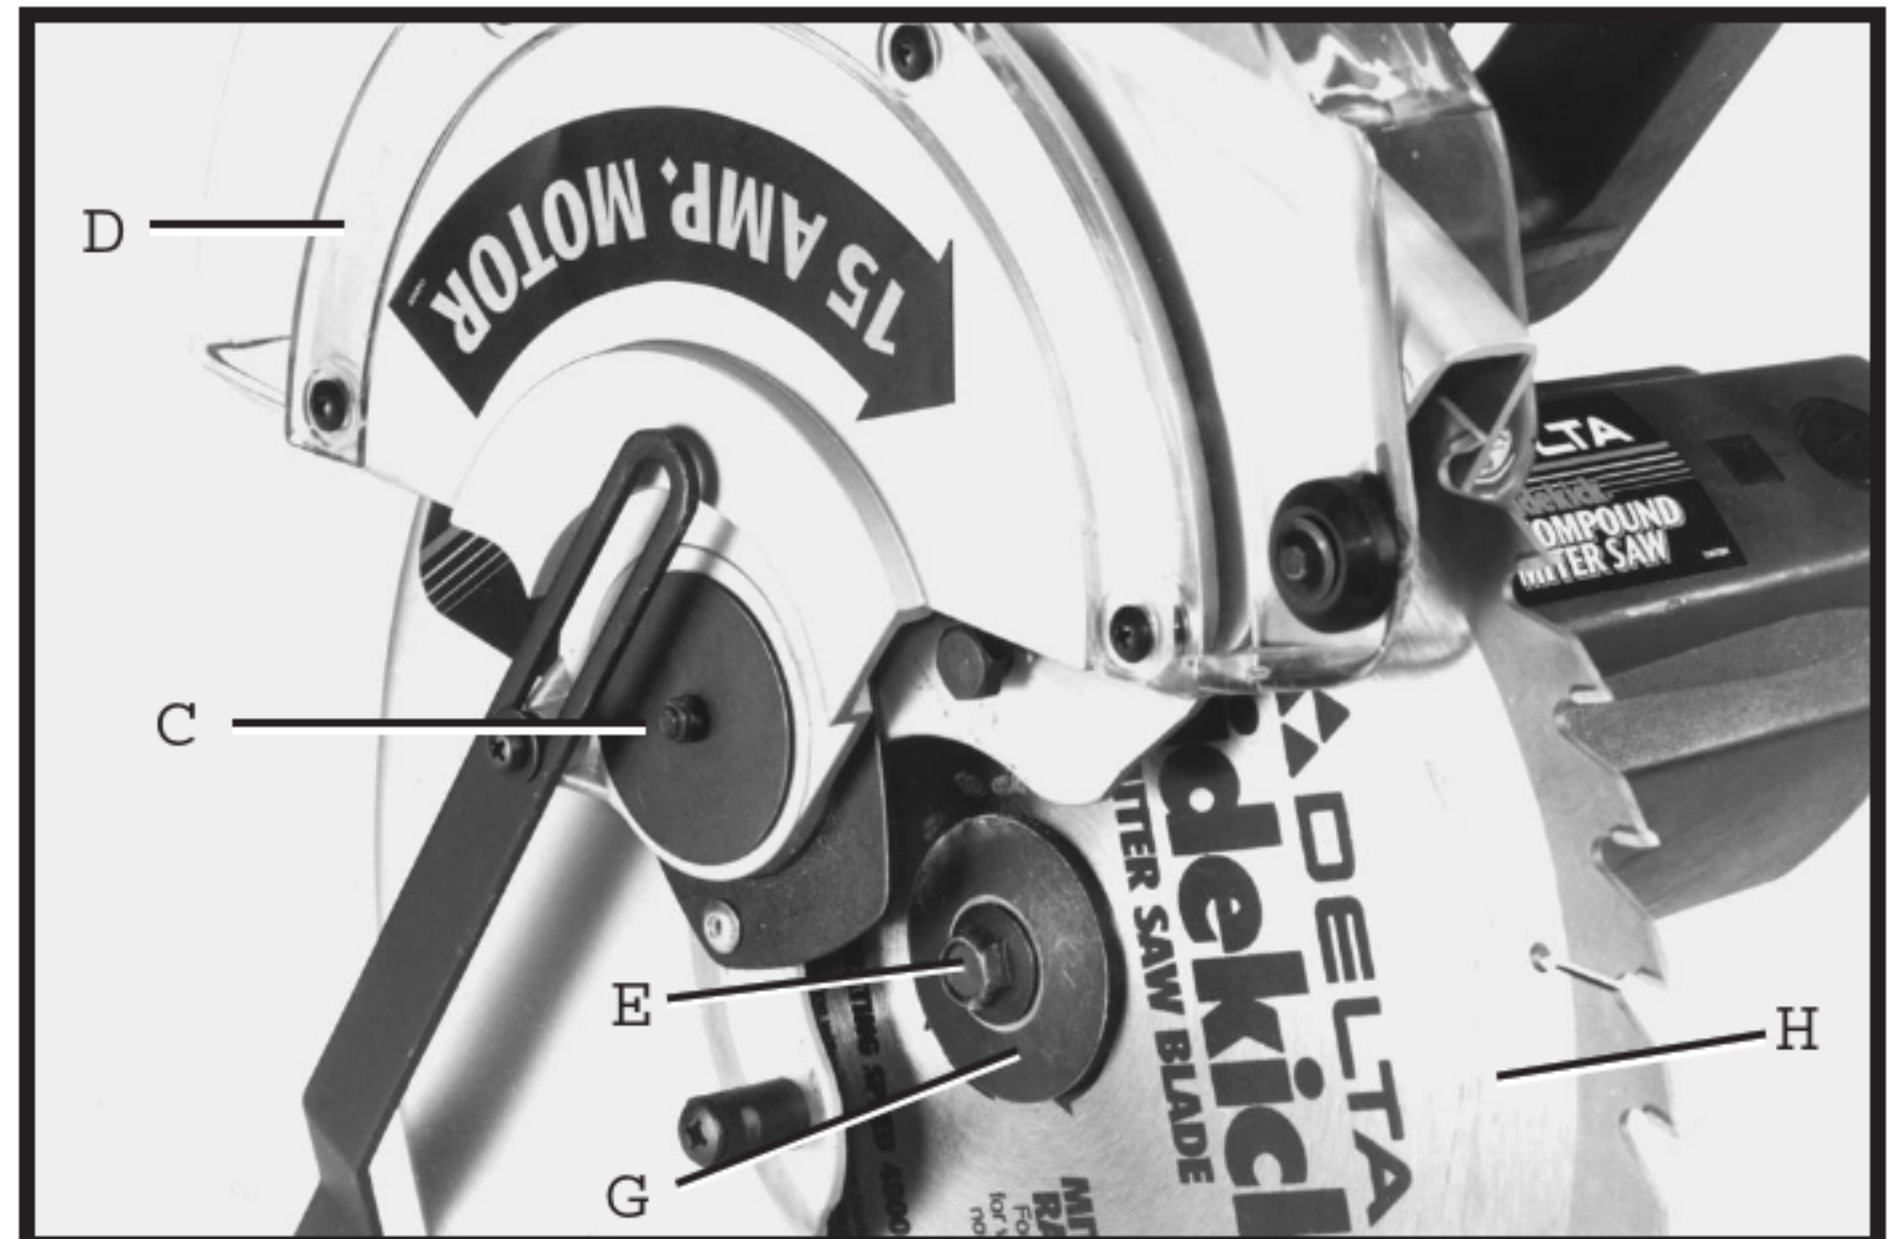
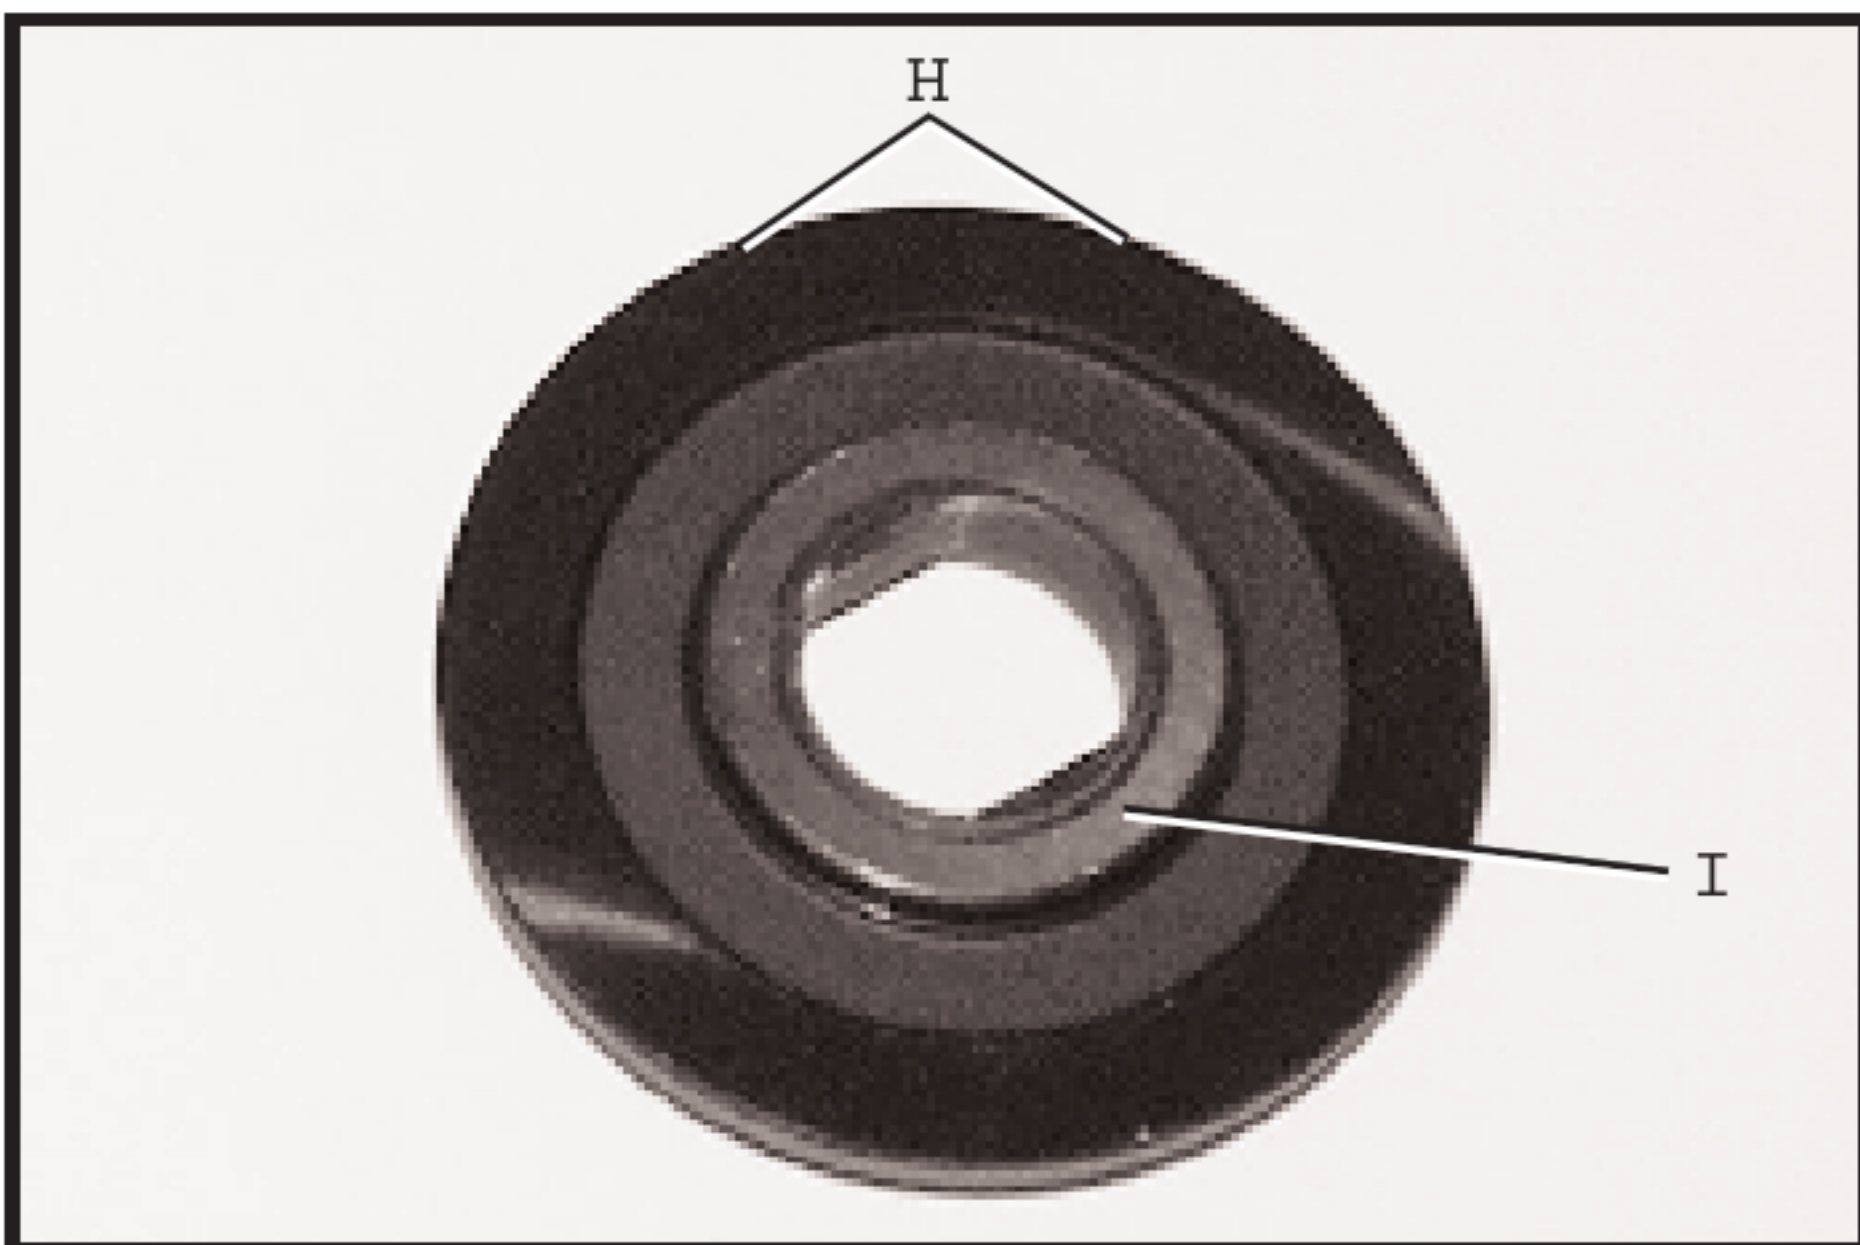
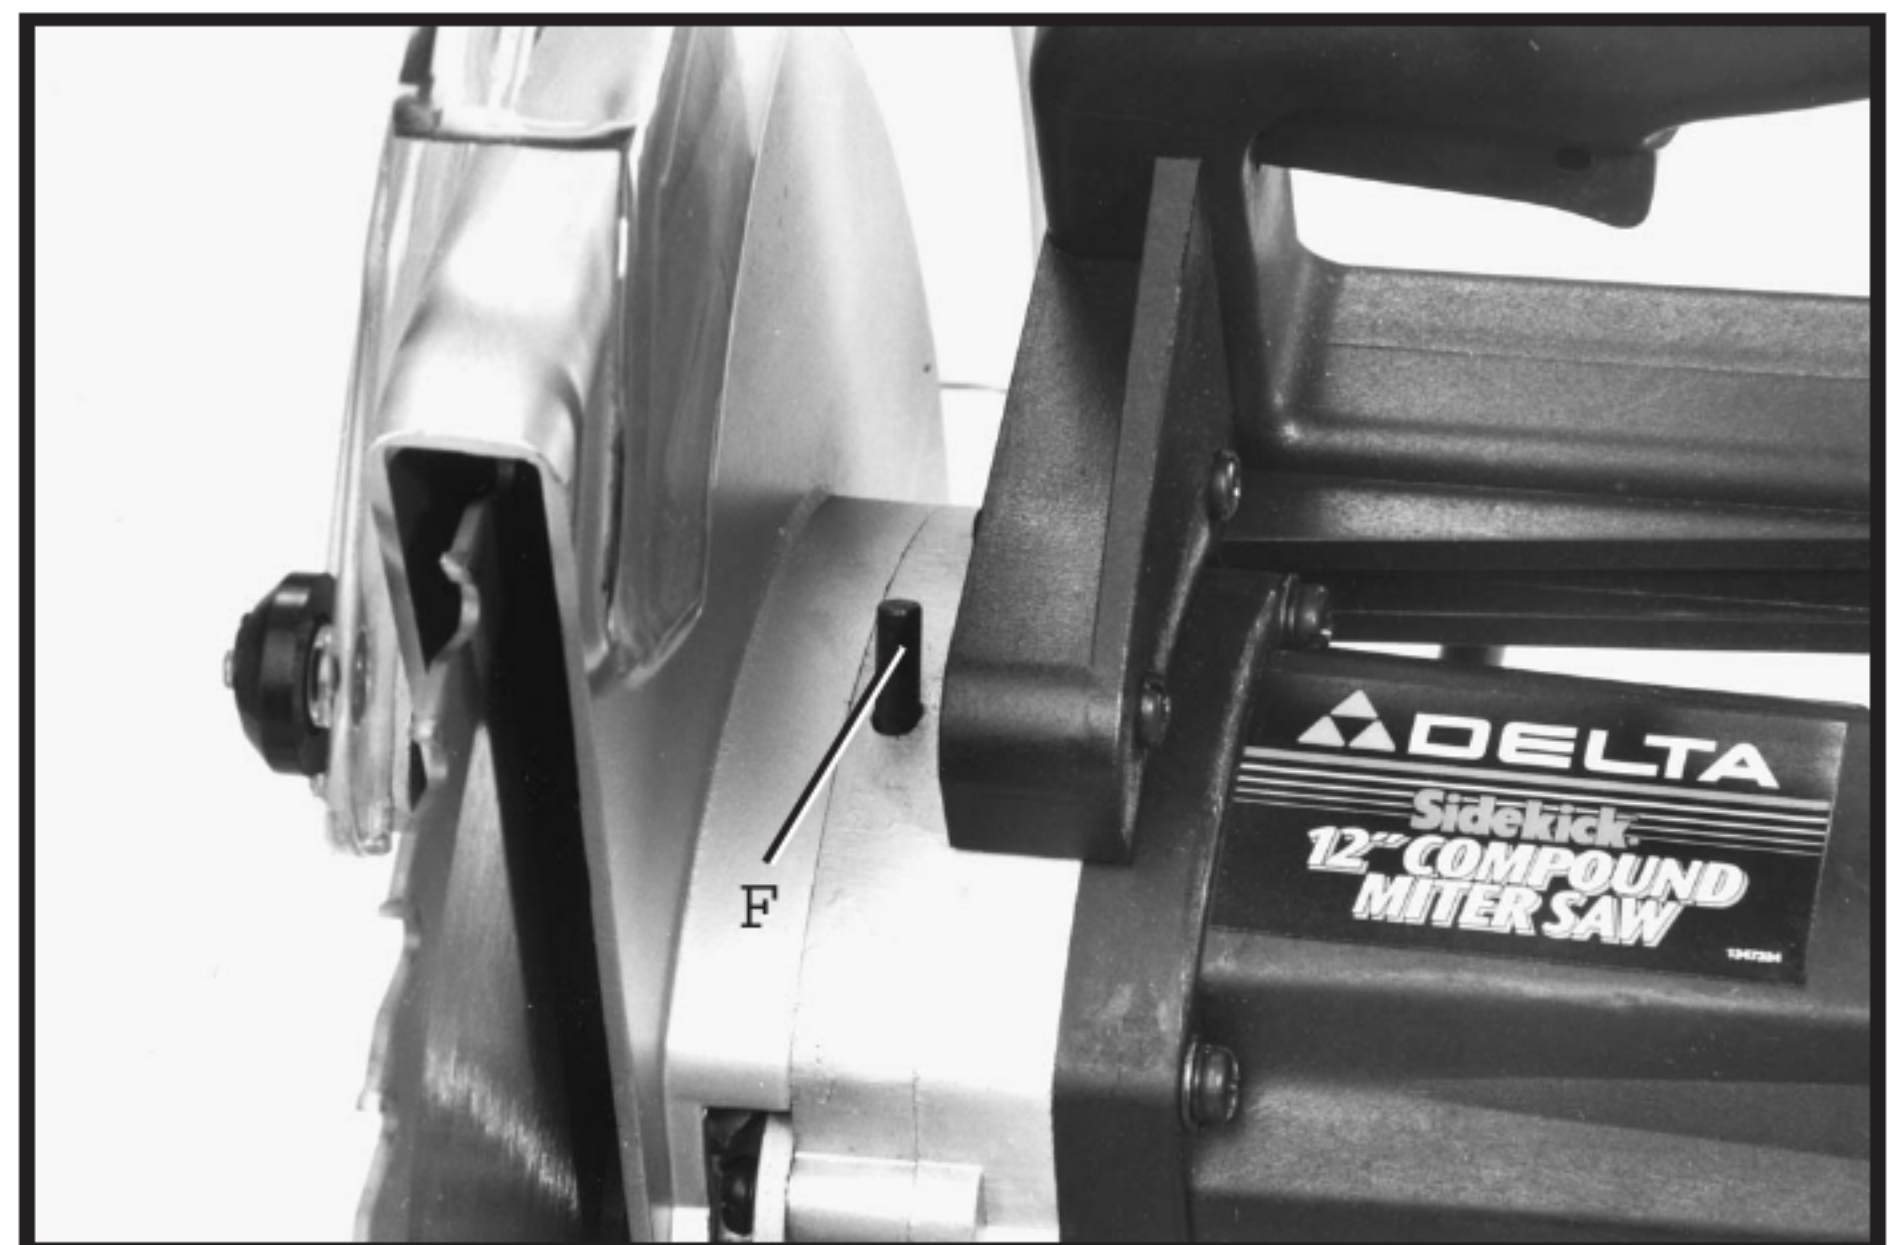

Fig. 54
Fig. 55
Fig. 56
4. Rotate arbor cover (C) Fig. 54, and lower guard (D) to the rear, exposing arbor screw (E), as shown.
5. Remove arbor screw (E) Fig. 54, by turning screw clockwise with wrench supplied while at the same time pressing in an arbor lock (F) Fig. 56, to keep the arbor from turning. Remove outside blade flange (G) Fig. 54, and saw blade (H). DO NOT REMOVE INSIDE BLADE FLANGE.
6. **WARNING:** IF THE INNER BLADE FLANGE (H) FIG. 55, HAPPENS TO BE REMOVED, IT MUST BE PLACED ON THE ARBOR SHAFT SO THE RAISED BUSHING (I) POINTS AWAY FROM MOTOR, AND MAKE SURE FLATS ON INNER BLADE FLANGE ARE ENGAGED WITH FLATS ON ARBOR SHAFT.
7. Assemble the new saw blade MAKING CERTAIN TEETH OF SAW BLADE ARE POINTING DOWN AT THE FRONT, AS SHOWN and assemble outside blade flange (G) Fig. 54, making sure flats on outside blade flange are engaged with flats on arbor shaft.
8. Thread arbor screw (E) Fig. 54, into saw arbor by turning screw (E) counterclockwise as far as possible by hand. Then tighten arbor screw (E) with wrench supplied while at the same time pressing in an arbor lock (F) Fig. 55, to keep arbor from turning.
9. Rotate arbor cover (C) Fig. 54, and lower guard (D) to the front and tighten screw (A) that was loosened in STEP 3.